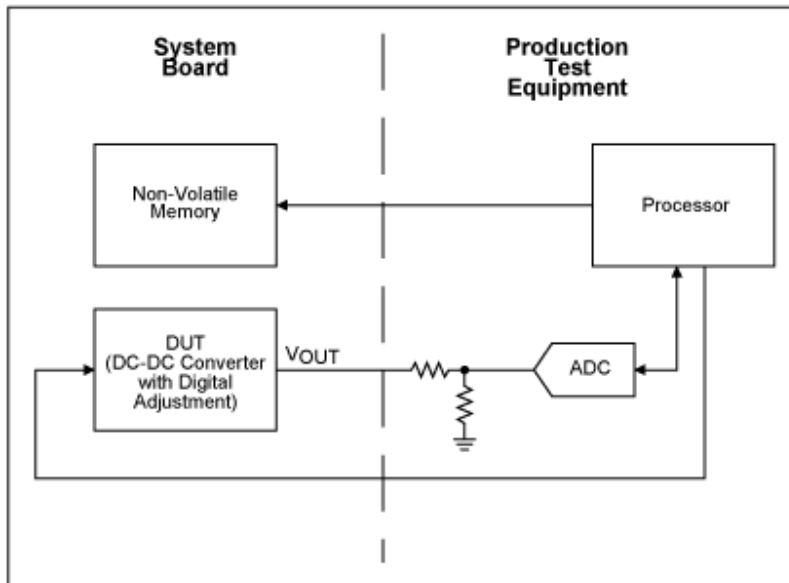
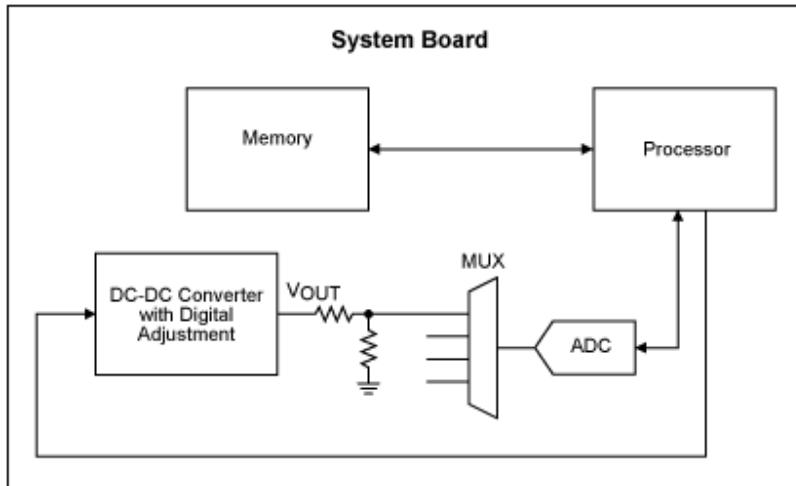

Figure 4. Measuring error of DC-DC converter and digital adjustment circuitry at production test.
Figure 5. Measuring output of DC-DC converter and digital adjustment circuitry with on-board ADC.
- **End-to-end resistance initial accuracy:** This error source is generally the largest, and will have the greatest effect on overall system accuracy. Digital potentiometers can have initial errors as large as $\pm 25\%$. This initial error must be calibrated out. Calibration usually happens at production test, or an in-system ADC can compensate for it, if one is available. See Figures 4 and 5 and "Compensating for errors in digital adjustment circuitry" below.
There are two common methods for overcoming the inaccuracies of the digital circuitry used to adjust the DC-DC converter (see **Figures 4** and **5**). Both involve measuring the output voltage of the DC-DC converter using an ADC, and using that measurement (or measurements) to compensate for the initial errors of the digital adjustment circuitry, and of the DC-DC converter.
One method uses the ADC on the system board (Figure 4), while the other uses the ADC on a piece of production test equipment (Figure 5). Each method has its own advantages and disadvantages.